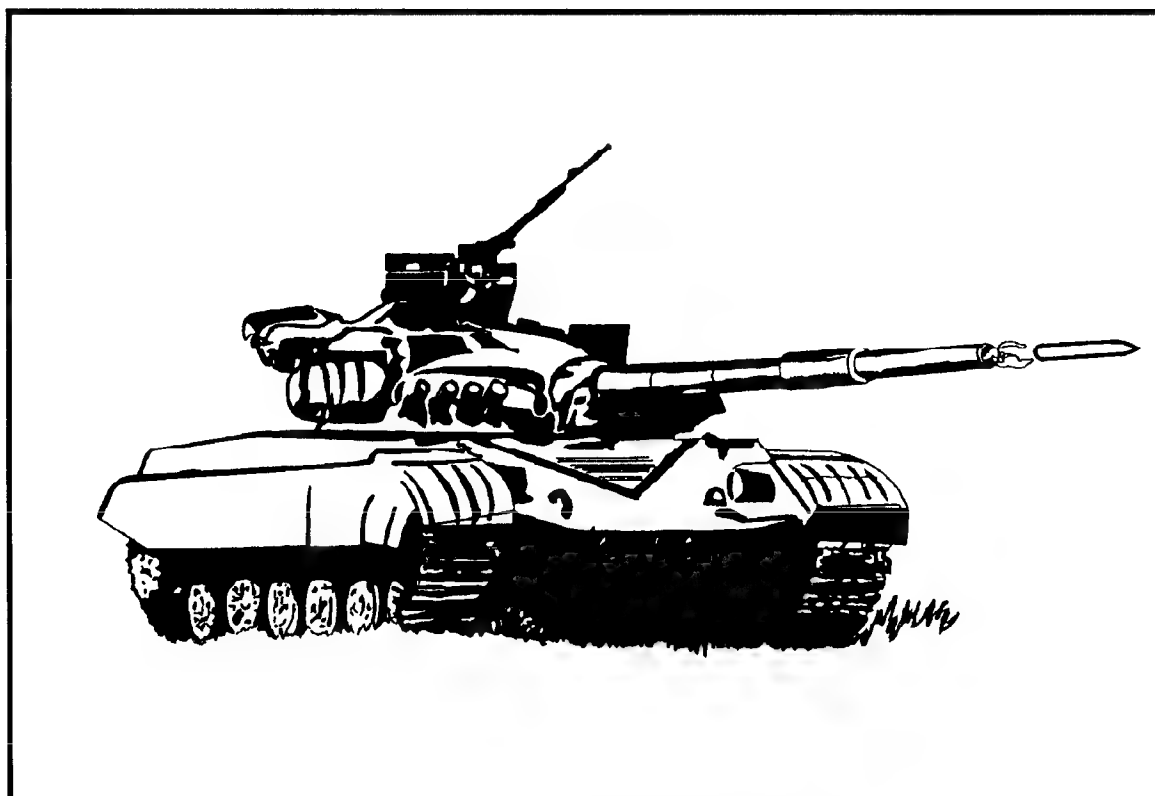

Figure F-11. AT-8 Songster.
g. AT 8 Songster (Figure F 11). This missile is one of the newest ATGMs in the Russian inventory and represents a particular threat to TOW crews, especially ITVs. The missile is fired through the main gun tube of a T-64B or T-80, but uses a boost/sustain motor to propel it to the target. The missile has a 4,000-meter range and is supersonic, giving it a short flight time. Its principal role is antitank, but it can also be used against helicopters.